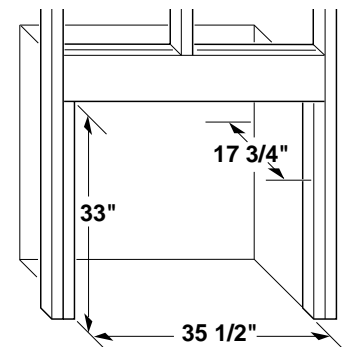
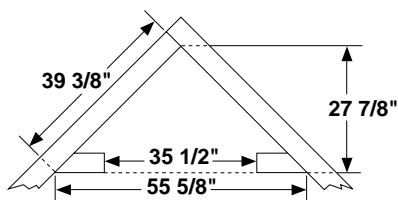

Figure 13 - Rough Opening for Installing in Wall
Figure 14 - Rough Opening for Installing in Corner
1. Frame in rough opening. Use dimensions shown in Figure 13 for the rough opening. If installing in a corner, use dimensions shown in Figure 14, page 10 for the rough opening. The height is 33" which is the same as the wall opening above.